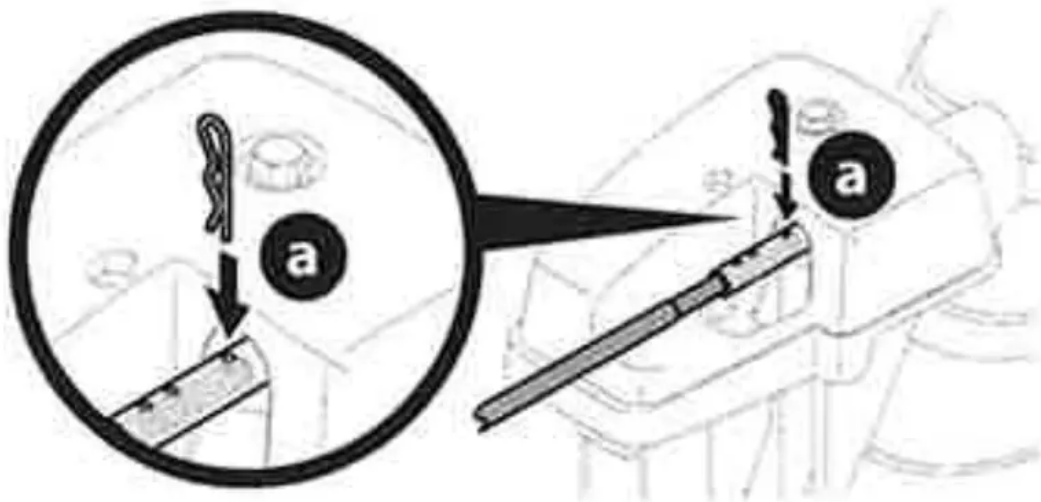

Figure 70
1. Remove cotter pin (a) from either of the holes furthest from the chute assembly on chute control head (Figure 70).
2. Push in chute control rod until the hole in it lines up with the third hole in chute control head (Figure 70).
3. Reinsert cotter pin(a) through this hole and chute control rod (Figure 70).